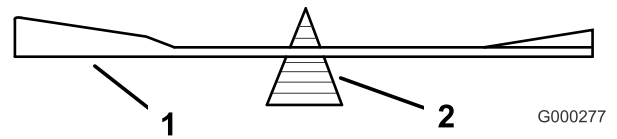

Figure 103
2. Check the balance of the blade by putting it on a blade balancer (Figure 103). If the blade stays in a horizontal position, the blade is balanced and can be used. If the blade is not balanced, file some metal off the end of